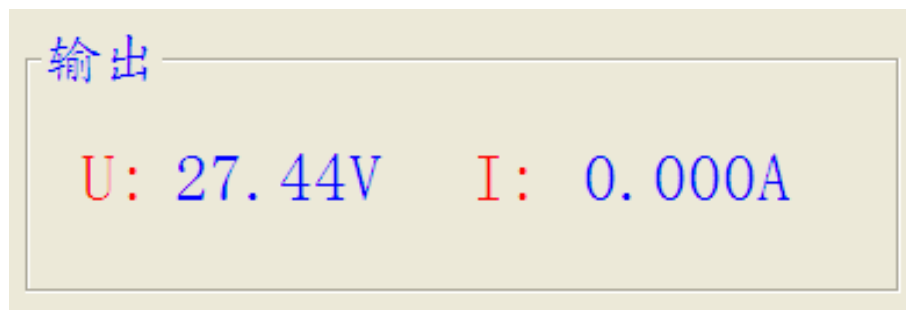

Figure 35
- A. Output terminal voltage current real-time display of power supply, as figure 35